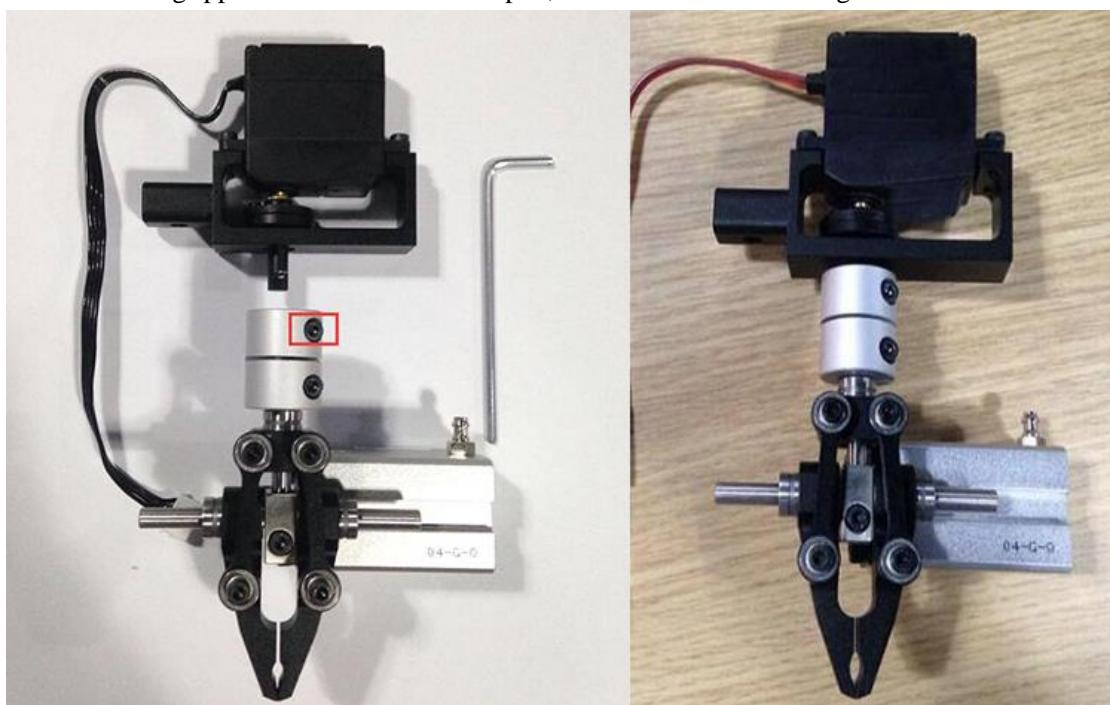

Figure 2.5 Gripper Installation
3. Install the gripper kit on Joint4 with coupler,that is done! Shown in Figure 2.5: